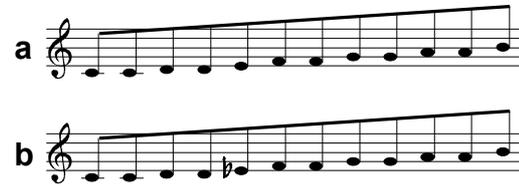

fig. 3: Major scale (a) and minor scale (b)
In the **"Scale"** position all voltages corresponding to the scale selected with switch ① (major or minor) are passed to the control voltage output (see fig. 3).